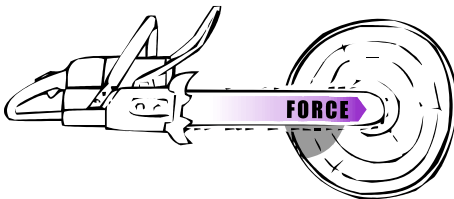

Figure 70 Bore at full throttle
4. With the saw at full throttle, insert the guide bar in the trunk. If possible, support the saw against your legs. (Fig. 70)